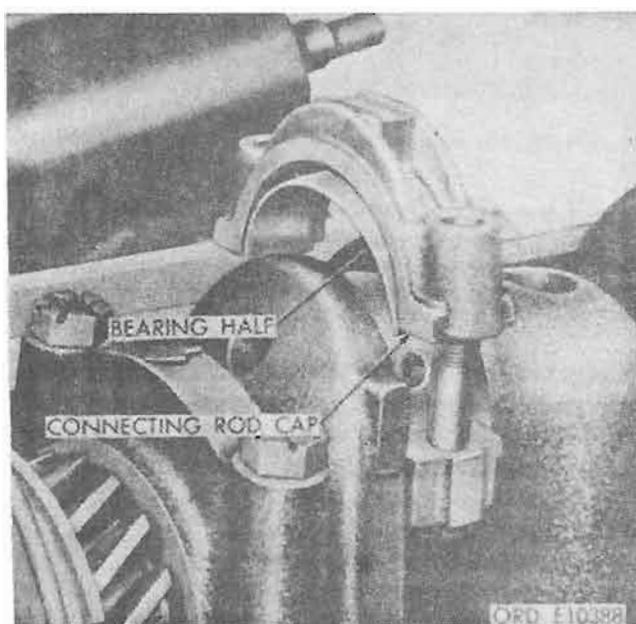

Figure 4-95. Connecting rod cap and bearing.
d. Connecting Rod Caps and Bearings. Remove connecting rod caps and bearings halves (fig. 4-95). Keep bearings with caps.